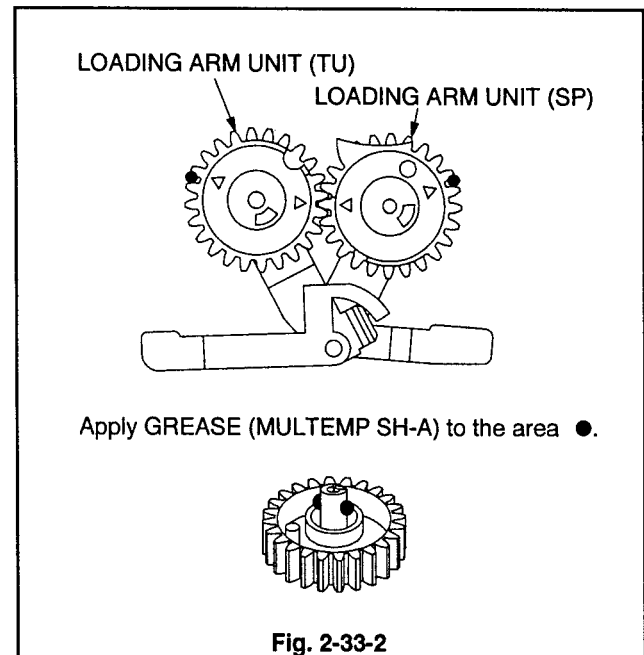

Fig. 2-33-2
1. Apply GREASE (MULTEMP SH-A) [859D055O80] to the area specified in Fig. 2-33-2 on the new LOADING ARM UNIT (SP).
3. Apply GREASE (MULTEMP SH-A) [859D055O80] to the area specified in Fig. 2-33-2 on the new LOADING ARM UNIT (TU).